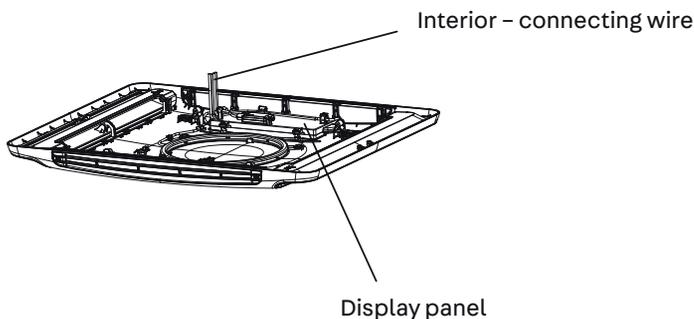

Figure 7
2. As shown in Fig. 7, the internal unit has a set of control signal wires with 1 wiring terminal in total.